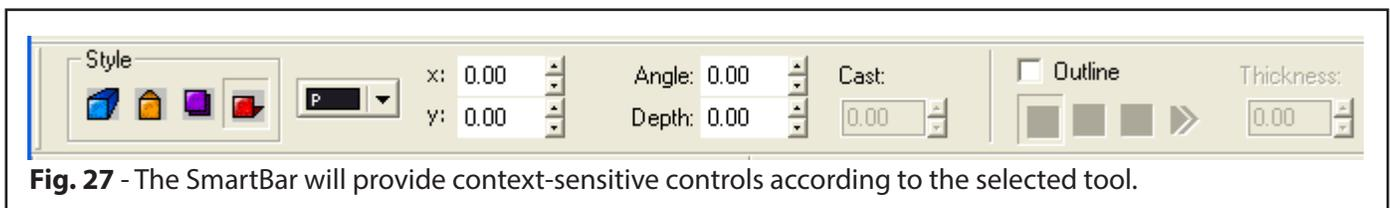

Fig. 27 - The SmartBar will provide context-sensitive controls according to the selected tool.
2. The SmartBar controls will now display Shadow-related controls (Fig. 27). There are four shadow styles that can be applied to an object. In addition, you can choose the color of the shadow, the offset, and you can even add an outline.